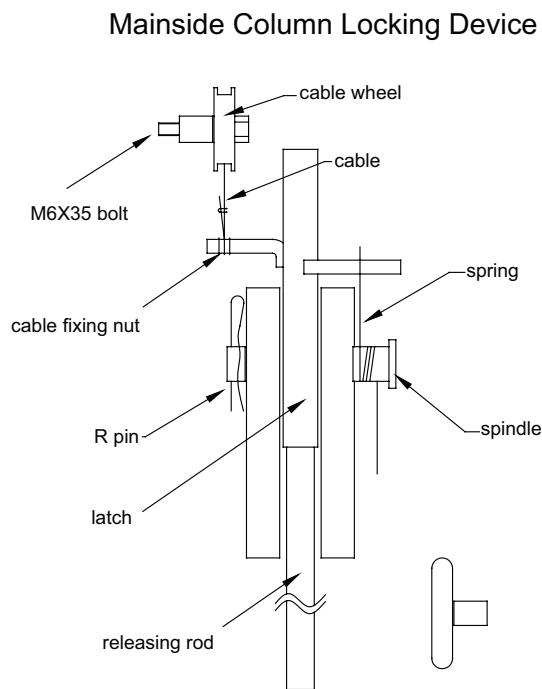
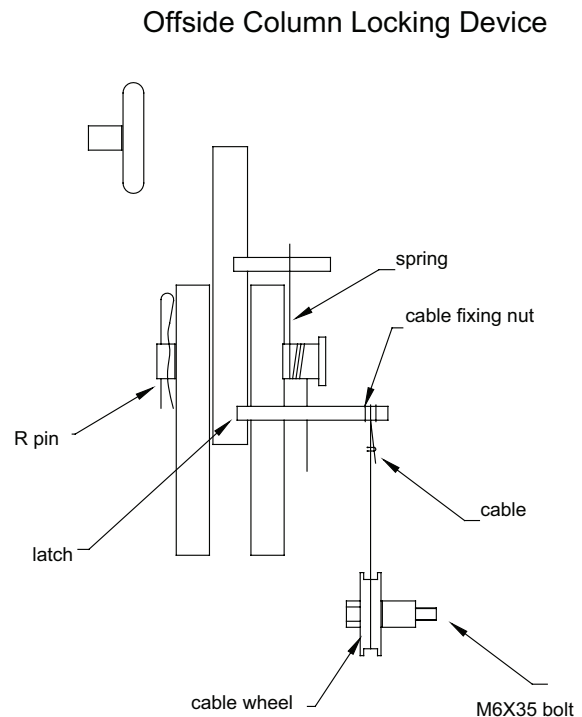
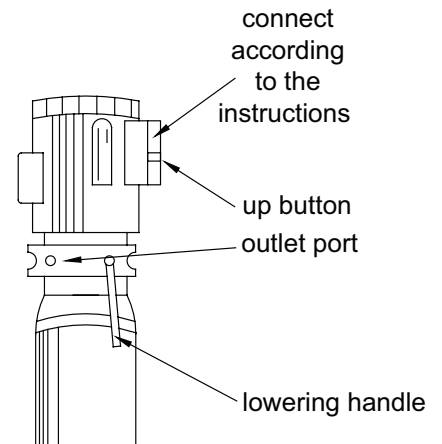

Fig. 4
Fig. 5
Fig. 12
7. Tighten the nut (fig. 4) to **85 ft-lbs** of torque.
- 10) Connect the safety release cable between the two latches. Check that the tension of the cable is tight. Pull the single point release handle several times and check the tension again by making sure both latches release at the same time when the handle is pulled. (Fig. 4 & Fig. 5)
- 18) Make the Electrical hookup to the power unit: 220V Single phase. It is recommended that a 220 Volt, 30 Amp twist lock plug be installed in the power line just ahead of the power unit. Use wire capable of supporting a 30-amp circuit. (Fig. 12 and diagram Fig. 5)